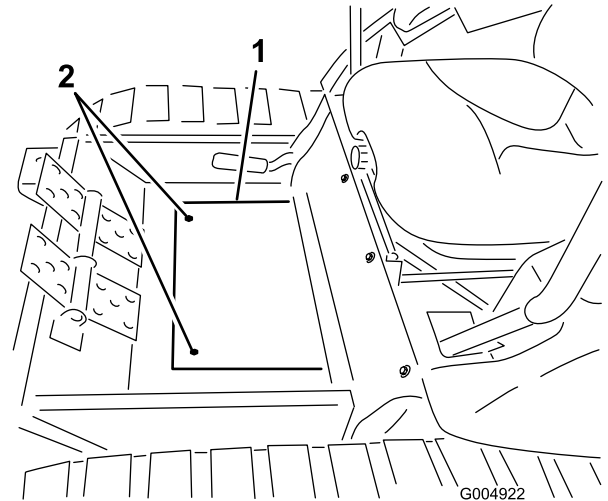

Figure 43
4. Remove the two screws securing the floor plate cover to the floor and remove the plate (Figure 43).